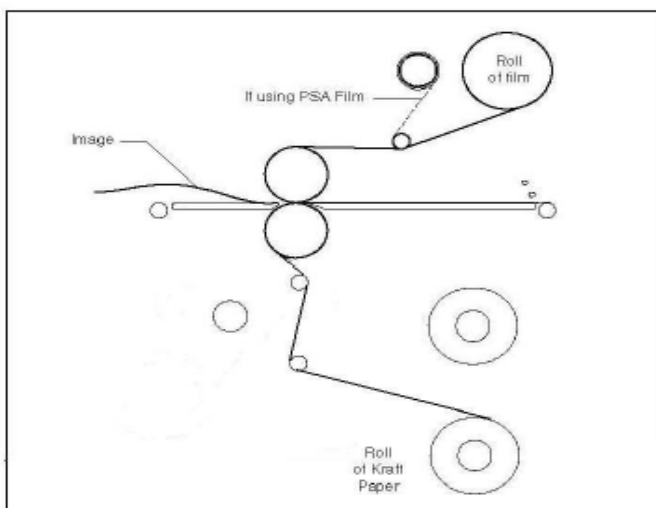

Fig. 33
TIPS FOR SINGLE SIDED LAMINATION (Figure 33)
1. Load the laminator as illustrated in Figure 33.